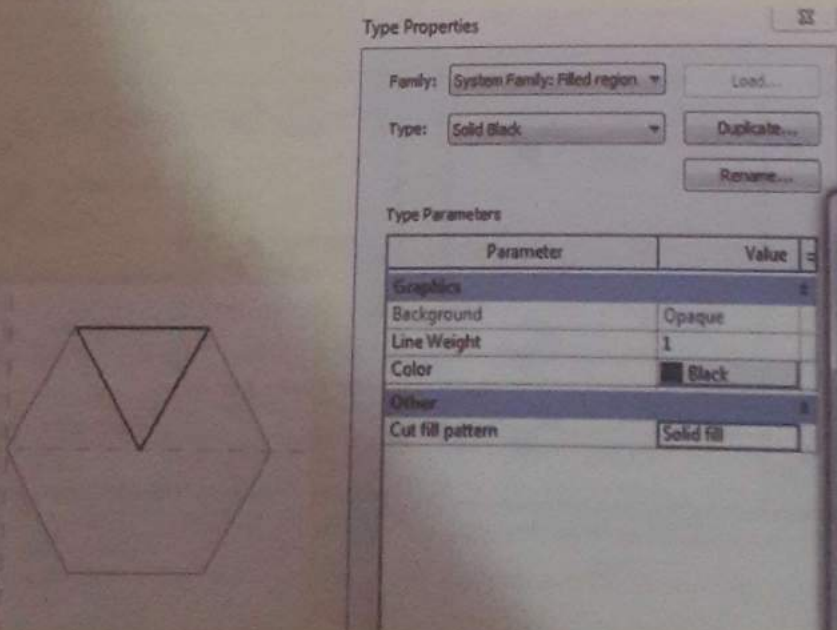

Figure 17: Filled region boundary
- e. Modify/Filled region boundary » create filled region boundary using draw tools as shown (Figure 17).